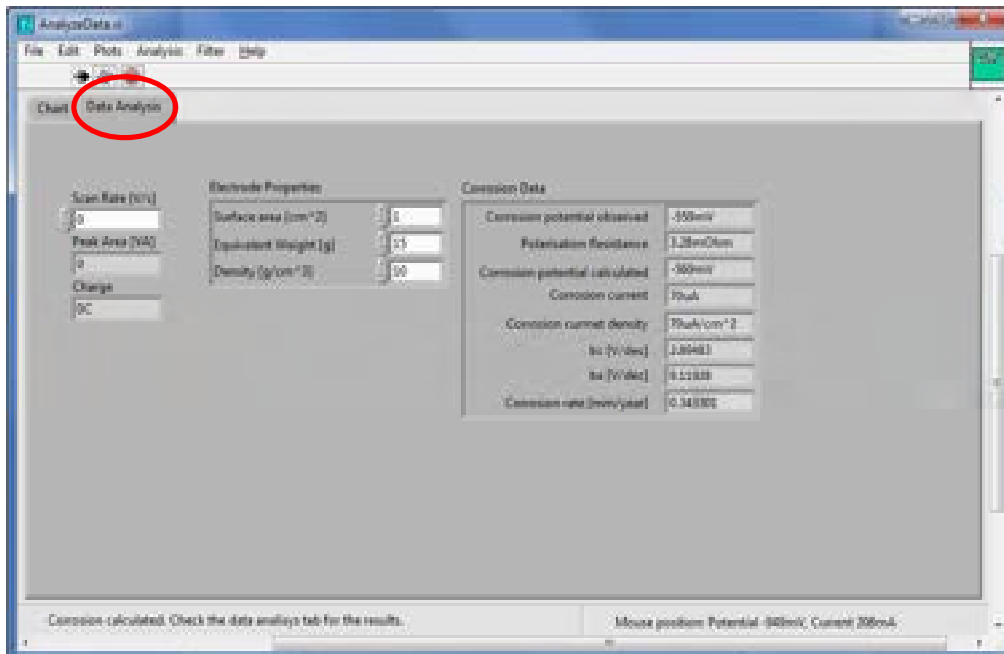

Figure 65. Corrosion analysis calculations
- The corrosion analysis results can be viewed by going to **Data Analysis** at the top of the graph window (Fig. 65). The user can enter the Surface area (cm2), Equivalent weight (g) and Density (g/cm3) in the **Electrode Properties** input boxes.